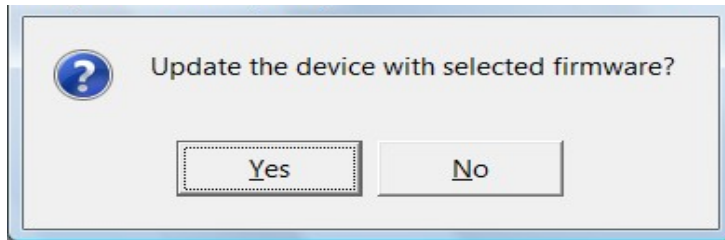

Figure 3.6: Confirmation of update
- Press “update firmware” button, confirm choice by pressing “Yes” (Figure 3.6) and wait for update to finish (Figure 3.7).